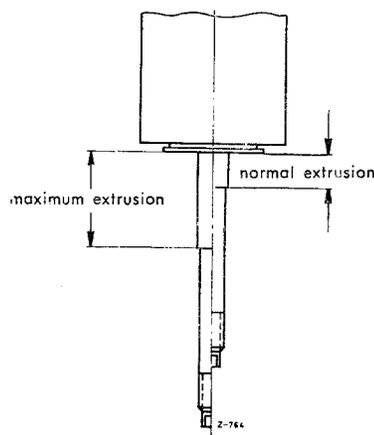

Fig. 32-1/4
The suspension of the Bilstein shock absorbers differs from that of the F. & S. and the Stabilus shock absorbers (Figs. 32-1/2 and 32-1/3).
3. The cup (4) of the 1st version rear shock absorber suspension must lie flat and must be centered in the cup on the chassis base panel to prevent rattling. The hexagon nuts (1) should be tightened firmly. The spacer sleeve (6) and the shoulder of the piston rod (bottom) prevent excessive initial stress of the rubber buffers (see Figs. 32-1/2 and 32-1/3).
4. If Bilstein shock absorbers lose oil, check the oil reserve. To do this depress the piston rod as far as the stop and measure the remaining length as far as the shoulder of the piston rod (Fig. 32-1/4). When this test is being made, the temperature of the shock absorber should be approx.  $+18$  to  $+20^{\circ}$  C.